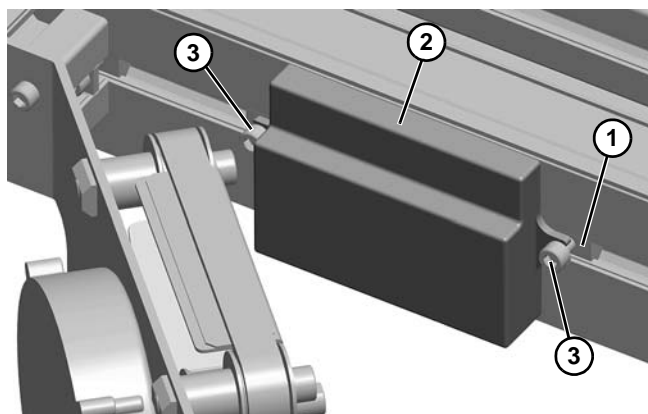

Figure 81
4. Install drop-in tee bar (**Figure 81, item 1**) in conveyor rail channel. Install drive control (**Figure 81, item 2**) with socket head screws (**Figure 81, item 3**). Do not tighten screws.